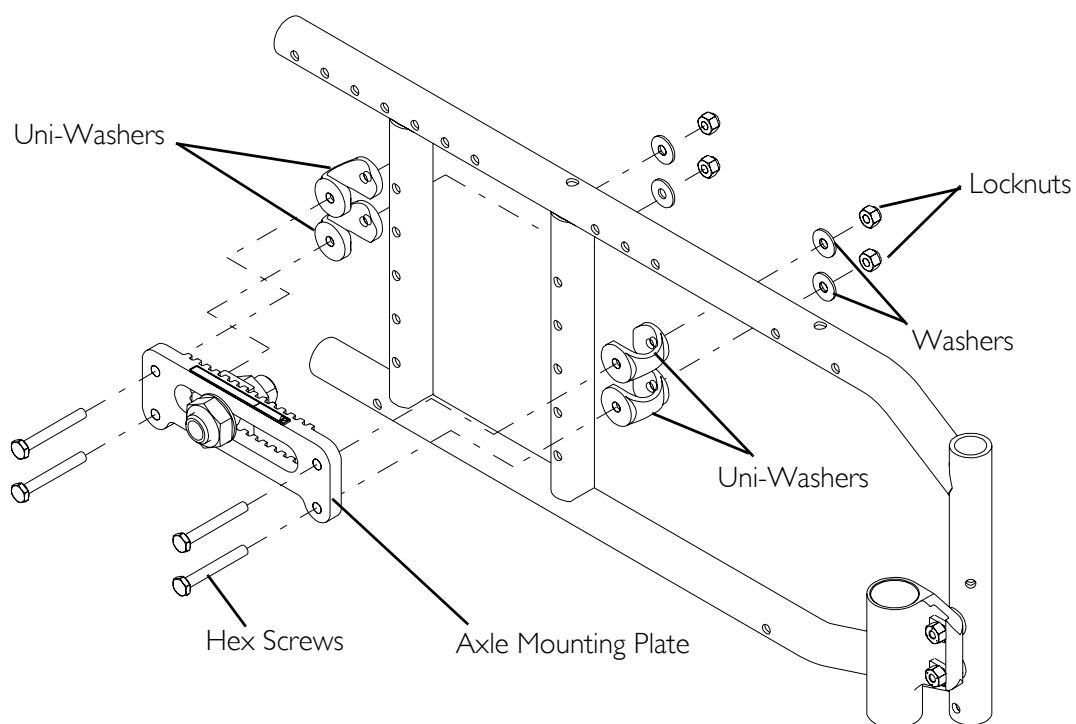

FIGURE 10.10 Adjusting Rear Wheel Height
NOTE: For this procedure, refer to FIGURE 10.10 on page 113.
5. Resecure the axle mounting plate to the wheelchair frame. Refer to FIGURE 10.10 for correct hardware orientation. Torque to 60 inch-pounds.